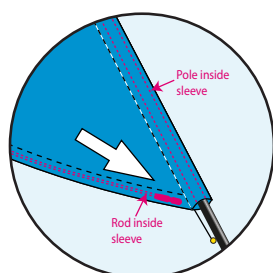
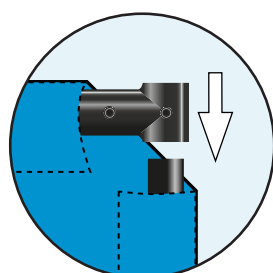

Fig 5.
Fig 6.
5. Push the carbon rod completely into the sleeve right down to the bottom, (Fig 5) this enables you to mount the arm T joint over the vertical 28mm pole section. (Fig 6)